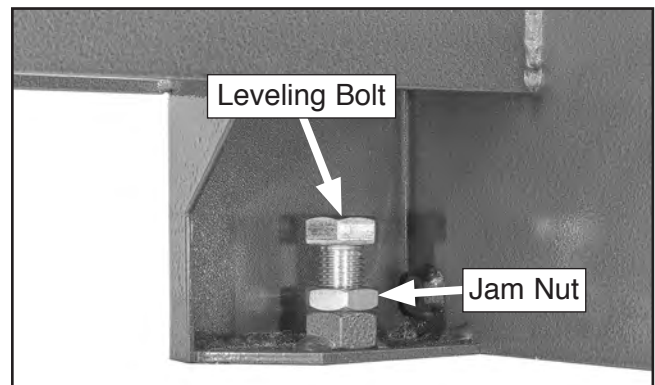

Figure 18. Location of (1 of 2) leveling bolts with jam nuts.
7. Stabilize machine by loosening jam nuts and rotating leveling bolts (see **Figure 18**) until machine is level, then tighten jam nuts to secure. The leveling bolts are located at rear left and right corners of machine.